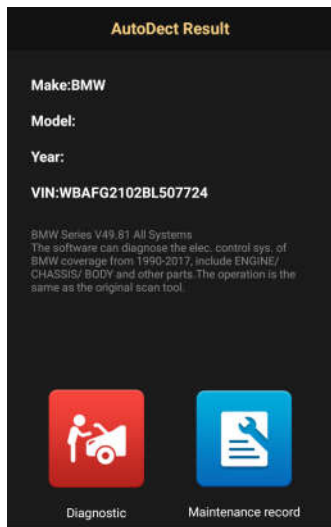

Fig. 5-2
- A. If the VIN can be found from the remote server database, a screen similar to Fig. 5-2 displays:
the vehicle information screen. See Fig. 5-2.